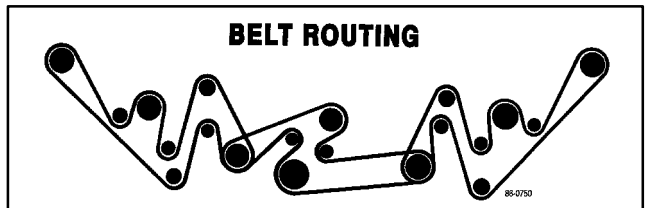

Figure 75
10. Route new belt around appropriate pulleys as shown in figure 75.